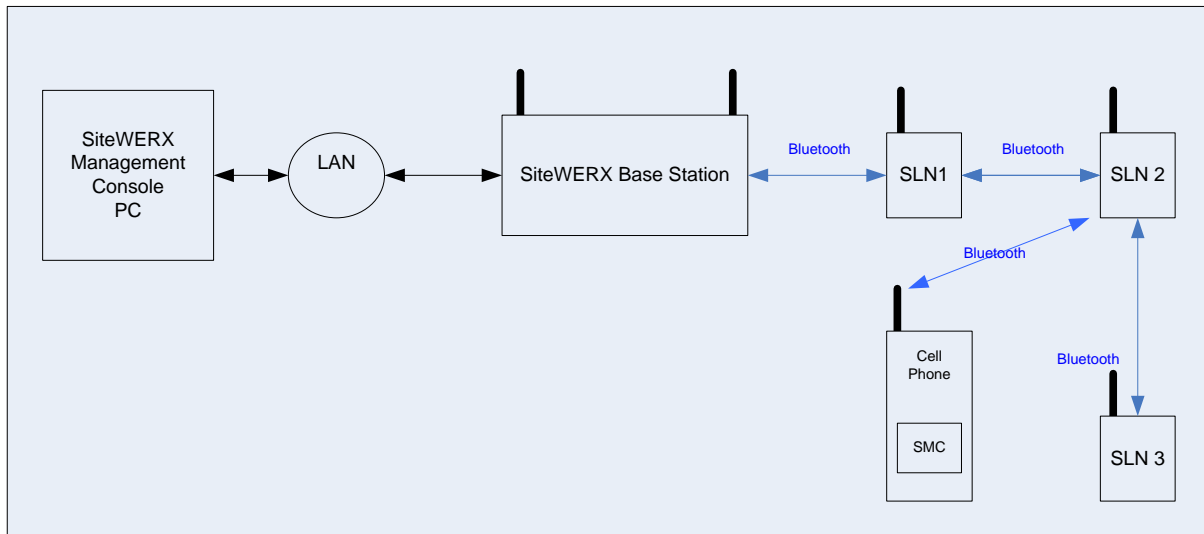

Figure 1 SiteWERX Location System
- Figure 1 SiteWERX Location System.....2**
The SBS and SLN's form a communication chain (scatternet) using Bluetooth radios. The SBS maintains a communication link with the Management Console, allowing the system to be managed by a PC. Mobile devices, such as cell phones and PDAs, running the SiteWERX Mobile Client (SMC) software are able to communicate with an SLN to receive location and real-time messages, reference Figure 1.